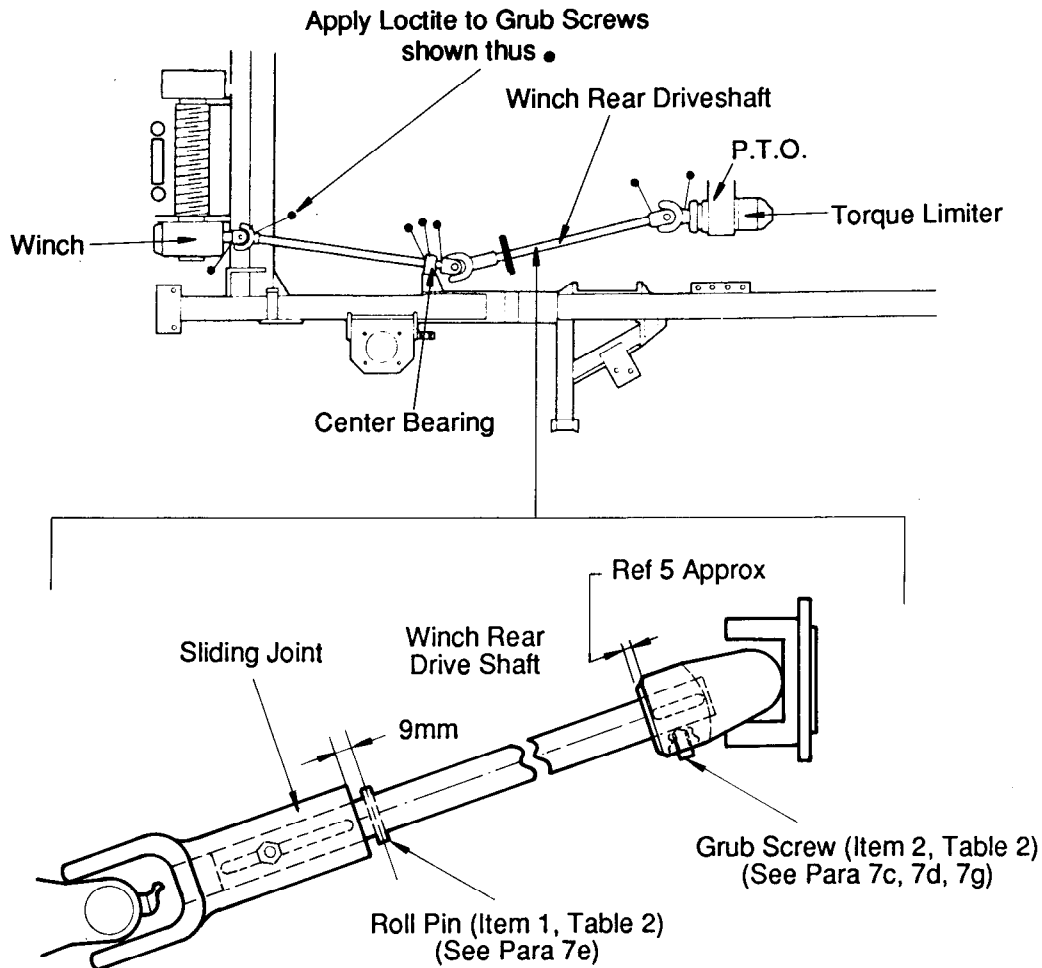

FIG 1 - WINCH REAR DRIVESHAFT REWORK
7. The modification is to be carried out as follows, with reference to Fig 1 for component location:
- e. Locate the previous mark on the sliding joint end of the driveshaft and using a 6 mm drill bit drill through the shaft and fit the roll pin (item 1 from Table 2).